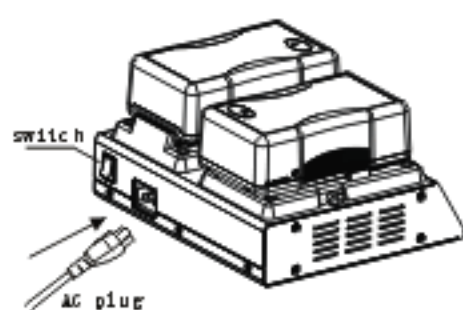

Fig. 1
- Connect AC power cord firmly. (Fig.1)